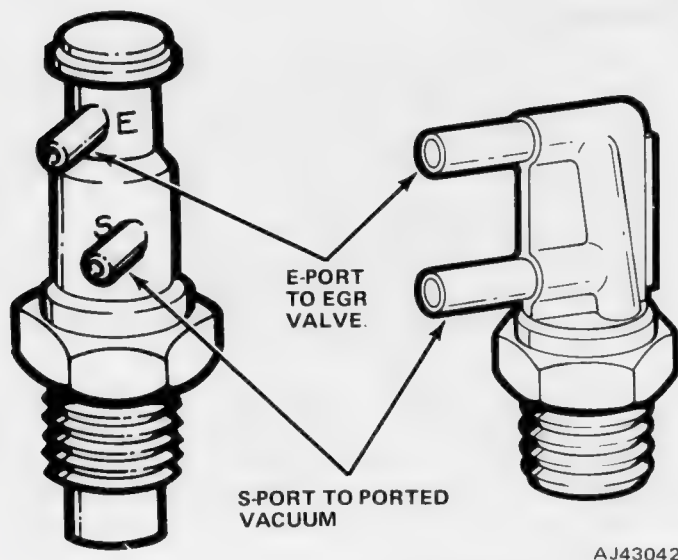

Fig. 1J-122 EGR CTO Switch
- (1) Install EGR valve and replacement gasket. If restrictor plate is used, sandwich between two replacement gaskets.
- (2) Install retaining nuts and tighten.
- (3) Connect all vacuum hoses. For hose routings, refer to figures 1J-117, 1J-118 or 1J-119.
- (4) Replace air cleaner assembly, if removed.
The EGR CTO switch is located in the coolant passage on the bottom of the intake manifold on four-cylinder engines, at the left side of the cylinder block on six-cylinder engines and in the coolant passage of the intake manifold adjacent to the oil filler tube on eight-cylinder engines. The inner port (S) connects to a hose to the EGR port at the carburetor. The outer port (E) connects by hose to the exhaust back-pressure sensor (fig. 1J-122).
- (1) Check vacuum lines for leaks and correct routings (fig. 1J-117, 1J-118 and 1J-119).
- (2) Disconnect vacuum line at EGR valve and connect line to vacuum gauge.
- (3) Operate engine at approximately 1500 rpm. No vacuum should be indicated on gauge. If vacuum is indicated, replace EGR CTO switch.
- (4) Idle engine until coolant temperature exceeds 115°F (black color code) or 160°F (yellow color code). The temperature gauge needle is approximately halfway between the cold mark and the beginning of the band at 115°F and is about at the beginning of the band at 160°F.
- (5) Accelerate engine to 1500 rpm. Carburetor ported vacuum should be indicated on vacuum gauge. If not, replace EGR CTO switch.